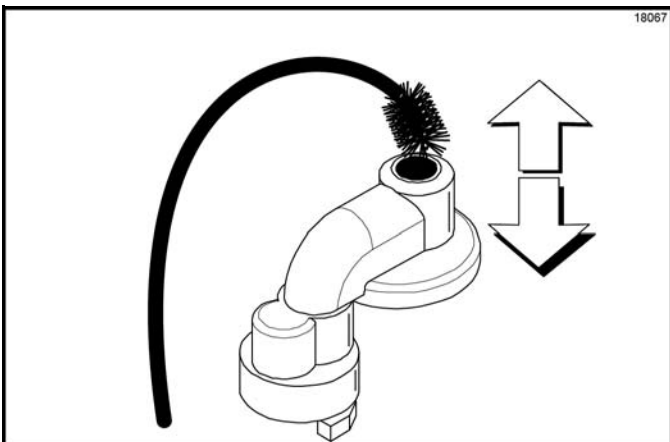

Figure 6-106
8. Insert the black shielded brush into the bottom side of the inlet valve. Move the brush back and forth to scrub this area, specifically around the steel ball. (See Figure 6-106.)